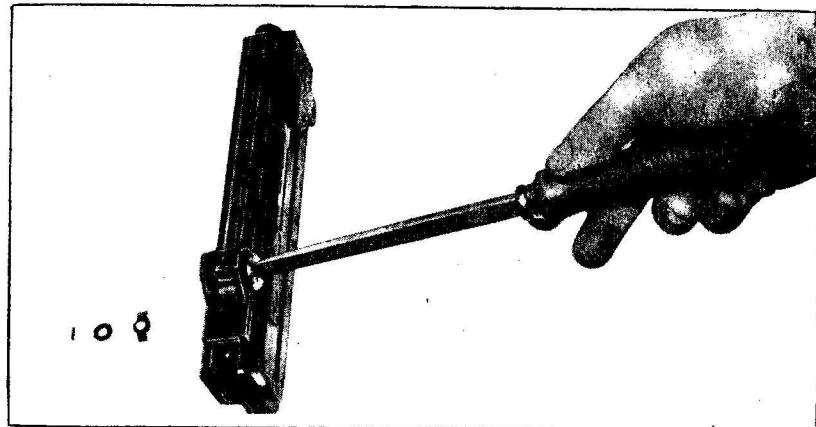

Fig. 78
2. con attrezzo 108 svitare in senso antiorario la vite diottra (fig. 78).
2. with tool 108 unscrew anticlockwise the aperture sight and remove it (figure 78).